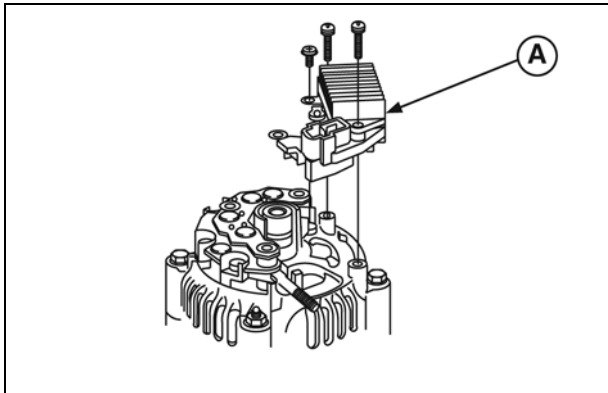

Figure 38
9. Assemble cover (**A**, Figure 38) to brush holder.